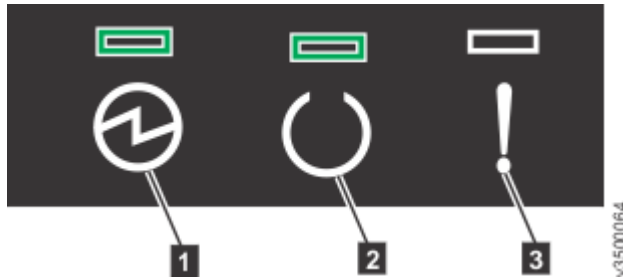

Figure 65. Node canister LEDs
4. From the rear of the control enclosure, check the LEDs on each node canister (see Figure 65 on page 98).